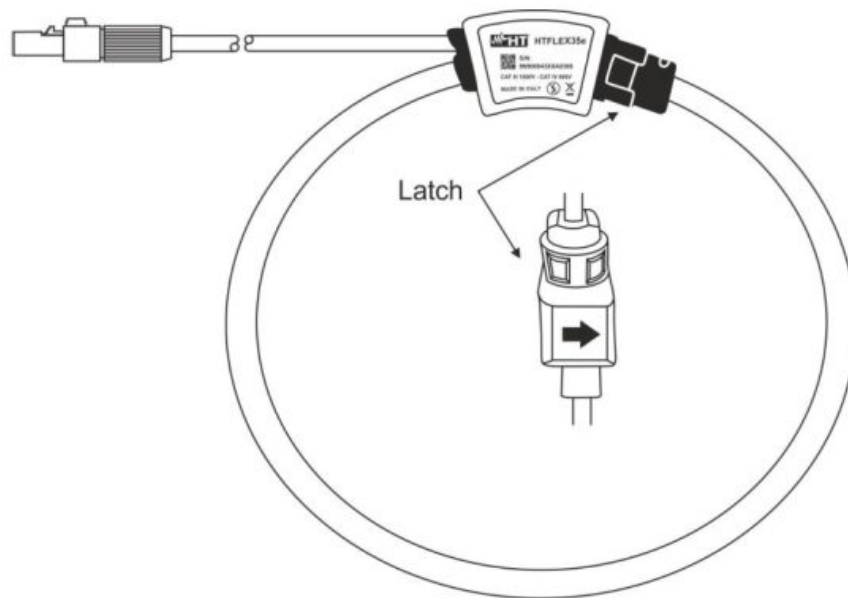

Fig. 2: HTFLEX35e transducer description
The lightweight and flexible HTFLEX35e is a current probe that may be wrapped around most conductors. The flexible head has a preset bend that allows the transducer to be more easily operated around the conductor (see Fig. 2). Its application versatility and insulation rating clearly distinguishes the HTFLEX35e transducer from other current measuring methods. It is made of non-ferrous materials, minimizing any circuit loading due to magnetic influence.
The current probe was designed to allow the operator to connect this device around a conductor without disconnecting it. Even though the current probe output is AC, there are instances where the user wishes to orient the transducer to get proper polarity at the output terminals (e.g. active power measurements). This is done by installing the transducer around the conductor with the molded-in arrow on the latch (see Fig. 2) pointing to the direction of conventional current flow. Conventional current flow is defined as current flowing from the positive to the negative potential. When a three phase plant is under test, the correspondence must be respected between volt probe of measuring instrument connected and clamp measuring the same phase.
1. Wrap the coil around the conductor, joining the two ends of the head by respecting the arrow on the rear part of the closing device (see Fig. 2) which indicates the direction of the current that by convention is from the generator to the load